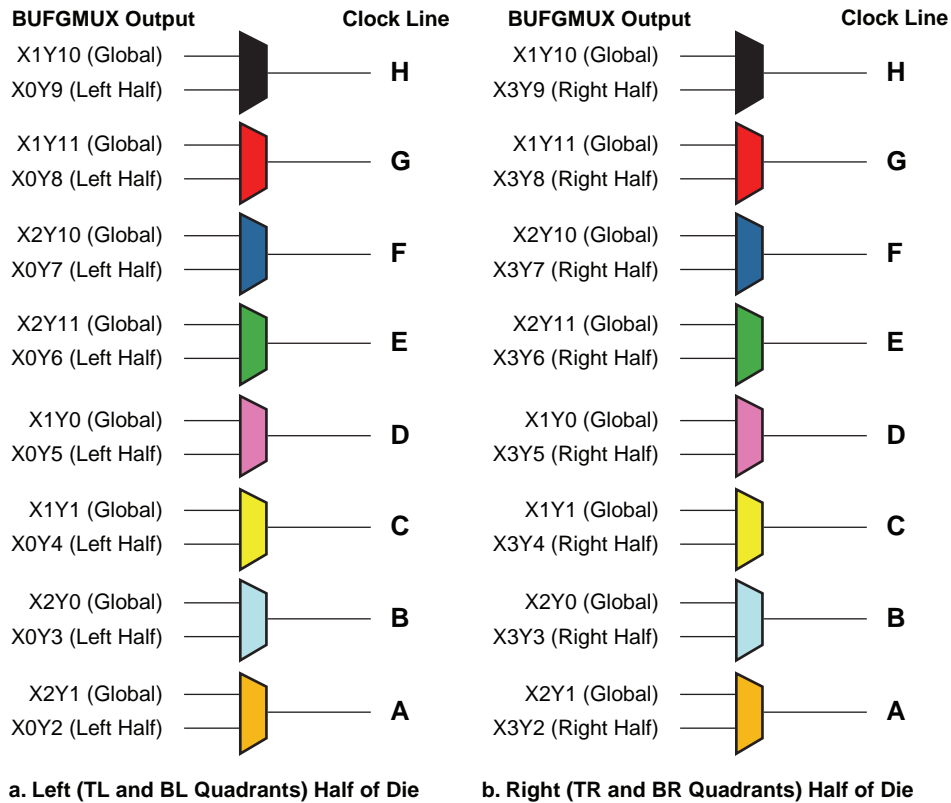

Figure 2-13: Spartan-3E and Extended Spartan-3A Family Clock Sources for the Eight Clock Lines within a Clock Quadrant
2. See Figure 2-2 for specific BUFGMUX locations, and Figure 2-13 for information on how BUFGMUX elements drive onto a specific clock line within a quadrant.
The clock routing within the Spartan-3E and Extended Spartan-3A family is quadrant-based, as shown in Figure 2-2, page 47. Each clock quadrant supports eight total clock signals, labeled A through H in Table 2-7 and Figure 2-13. The clock source for an individual clock line originates either from a global BUFGMUX element along the top and bottom edges or from a BUFGMUX element along the associated left/right edge, as shown in Figure 2-13. The clock lines feed the synchronous resource elements (CLBs, IOBs, block RAM, multipliers, and DCMs) within the quadrant. Those resources have programmable polarity on the clock input.
Figure 2-13 shows how the clock lines in each quadrant are selected from associated BUFGMUX sources. For example, if quadrant clock A in the bottom left (BL) quadrant originates from BUFGMUX_X2Y1, then the clock signal from BUFGMUX_X0Y2 is